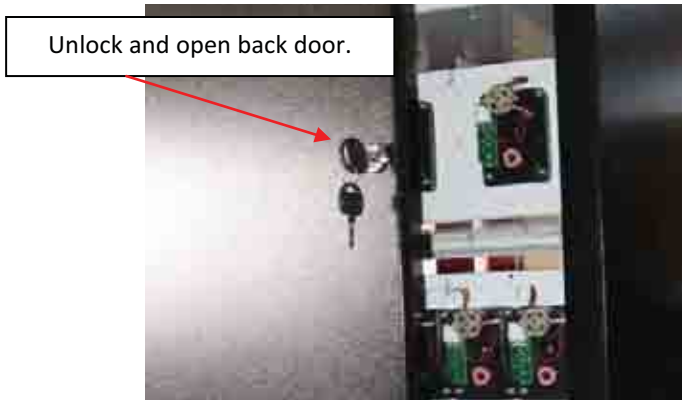

Figure 47- Open the back door
- a. Open the back door on the snack machine (*Figure 47*)